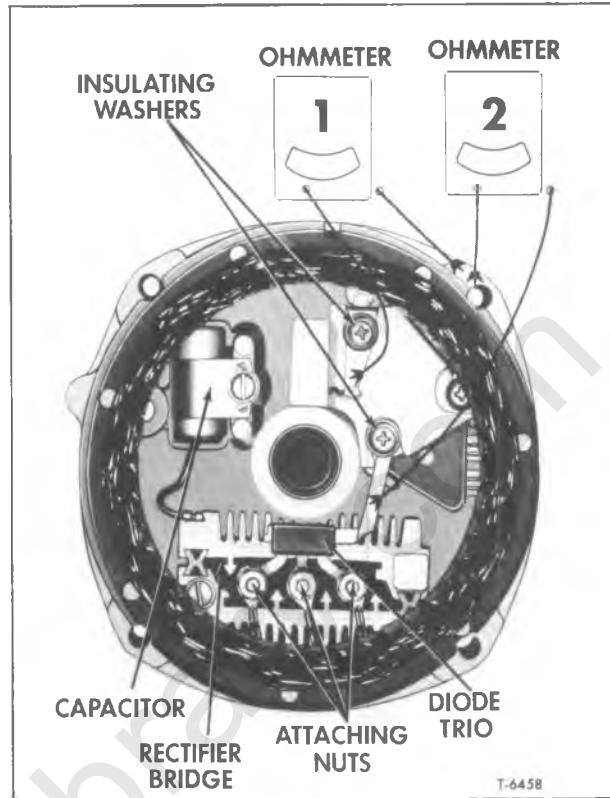

Figure 5—Slip Ring End Frame (42- or 61-Amp. Integral Type Generator)
- b. Connect ohmmeter using lowest range scale from brush lead clip to end frame as shown in Step 1 in figure 5, then reverse lead connections.
- d. A grounded brush lead clip can result from omission of insulating washer (fig. 5), omission of insulating sleeve over screw, or damaged insulating sleeve. Remove screw to inspect sleeve. If satisfactory, replace regulator.
9. If output is within ten per cent of rated output, replace the regulator (fig. 5).